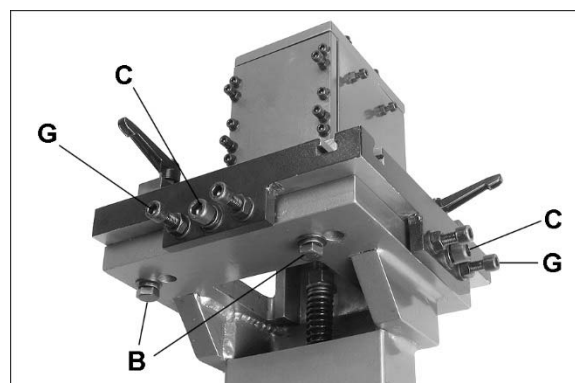

Figure 6-2
2. Remove three (3) hex cap bolts with washers (B, Figure 6-2) from beneath table; two at front and one at back.
3. Remove two (2) socket head screws (C, Figure 6-2). Remove table.
5. Insert bolts/washers (B, Figure 6-2) and screws/washers (C, Figure 6-2). Hand tighten only at this time.
5. Slightly loosen screws (C, Figure 6-2).
6. Loosen nuts on four adjustment screws (G, Figure 6-2) and turn adjustment screws as needed to adjust gap between lower and upper blades on both sides of table. Feeler gauge should be snug but still able to be smoothly removed.
7. NOTE: If a feeler gauge is not available, make incremental adjustments according to step #6, then tighten the screws (C), and make test cuts. Continue to adjust as needed until notcher is cutting properly.
8. Tighten nuts on the adjustment screws (G, Figure 6-2) to secure setting.
9. Tighten center screws (C, Figure 6-2).
10. Reinstall blade guard (A, Figure 6-2).